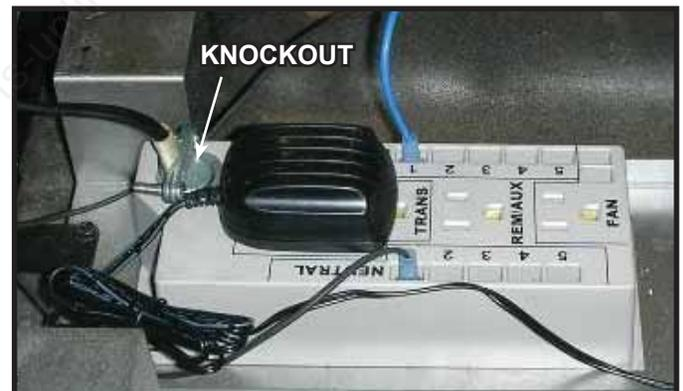

Figure 8.1 Junction Box Detail
2. Route the wire through the strain relief in the outer wrap and down through the knockout located on top side of the junction box. See Figure 8.1.